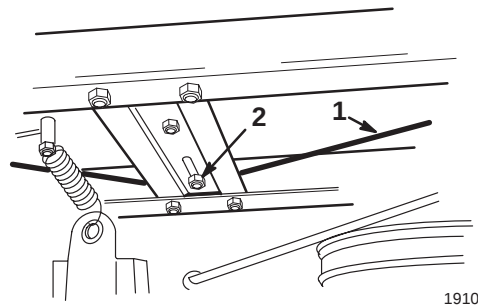

Figure 8
2. Check the cable tension. The cable should be taught and have 1/2 in. (13 mm) movement when you apply a slight pressure to the cable (Fig. 8).
5. Slide the guide sideways as needed for proper tension (Fig. 8).